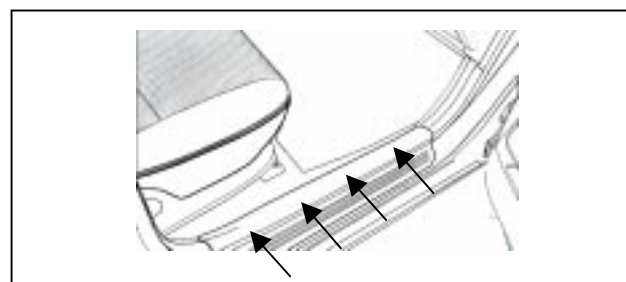

Figure B1
1. Remove scuff plate using nylon pry tool as indicated by arrows in Figure B1.